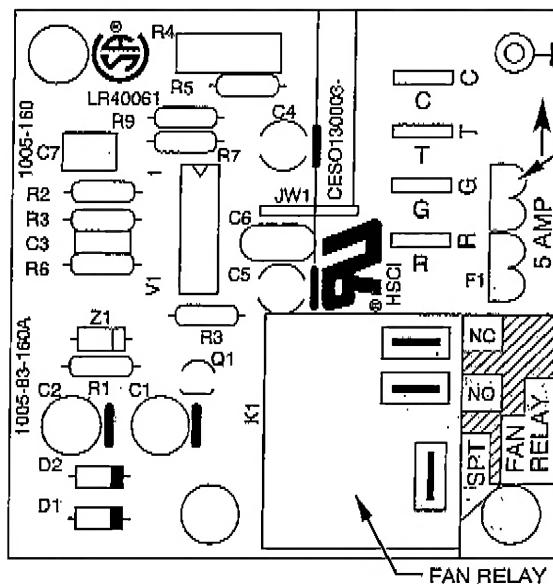

Fig. 3—Fan Coil Printed-Circuit Board
Layout of the actual PCB is depicted in Fig. 3.
3. Check low-voltage fuse shown in Fig. 3. If fuse is blown, replace it. The transformer cannot supply power to board with fuse blown or loose. If fuse blows when unit has power applied to it, the system most likely has 1 of the following problems: